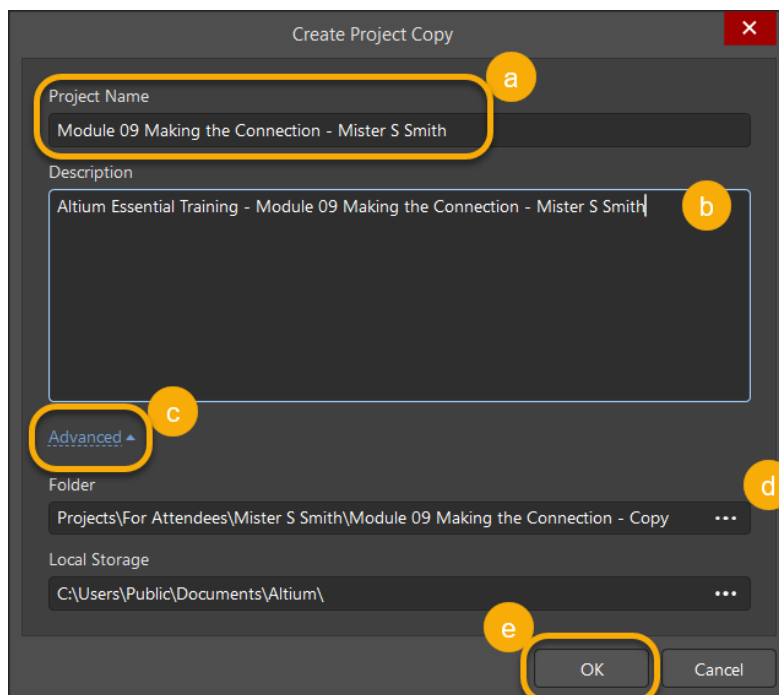

Figure 4. Create Project Copy
12. At the new dialog *Create Project Copy*, as seen at Figure 4.